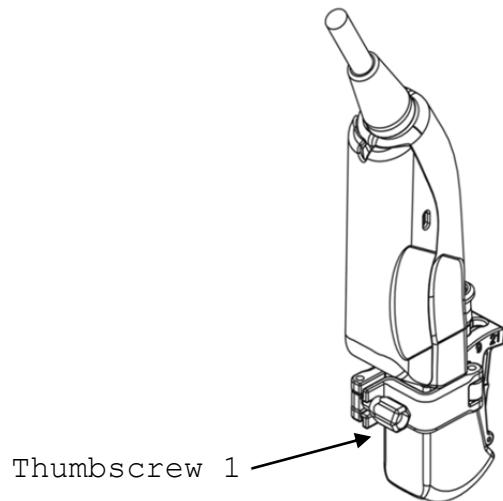

Fig. 7 Fitting the needle guide bracket
- 2) Fit the recess of the bracket to the thumbscrew 1 and tighten the thumbscrew 1. (See Fig. 7) At this time, be sure to attach the needle guide bracket so that the needle guide attachment area is positioned in the same direction as that of the needle guide bracket mount part side.